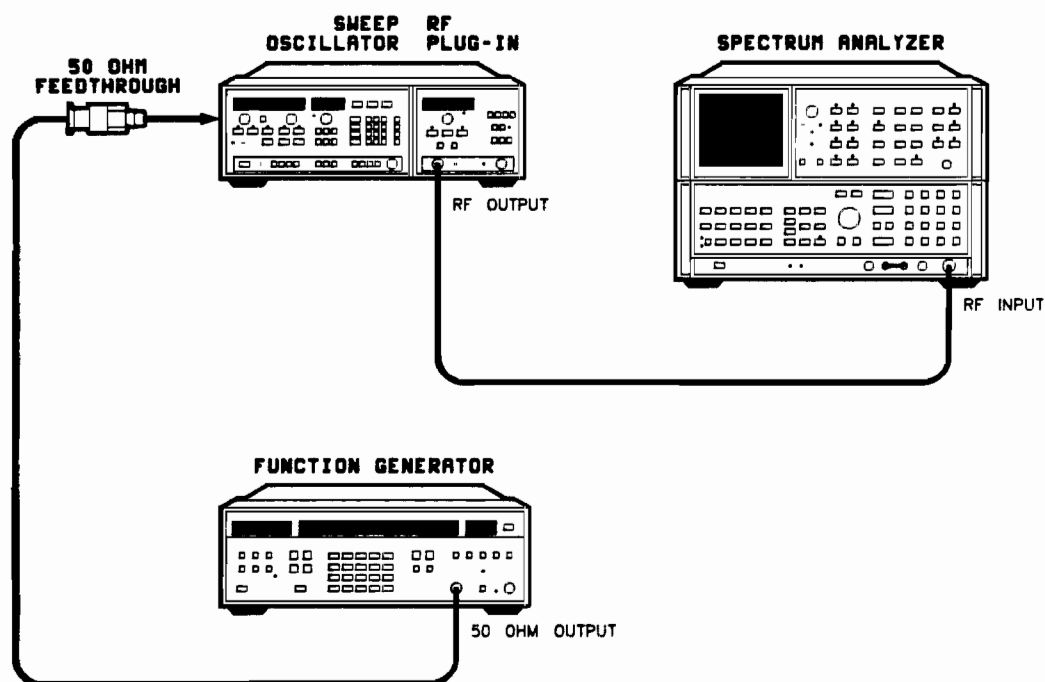

Figure 4-9. External Frequency Modulation Test Setup
2. Connect the equipment as shown in Figure 4-9, but do NOT connect the function generator to the FM input yet. Turn all instruments on and allow 1 hour warm up.
Connect the sine wave output as shown in Figure 4-9.
13. On the function generator, connect the output as shown in Figure 4-9.